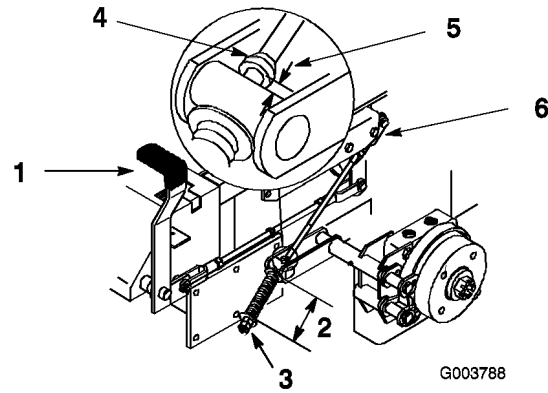

Figure 46
3. If adjustment is necessary, loosen the jam nut below the spring and tighten the nut directly below the yoke (Figure 46). Turn the nut until the correct measurement is obtained. Tighten the two nuts together and repeat on opposite side of unit.
The measurement should be 3/16-1/4 inch (5-7 mm) (Figure 46).
7. If adjustment is necessary, loosen the jam nut directly below the yoke. Turn the bottom rod until the correct measurement is obtained (Figure 46). Tighten jam nut at yoke
The measurement should be 2-3/4 inch (70 mm) between washers (Figure 46).